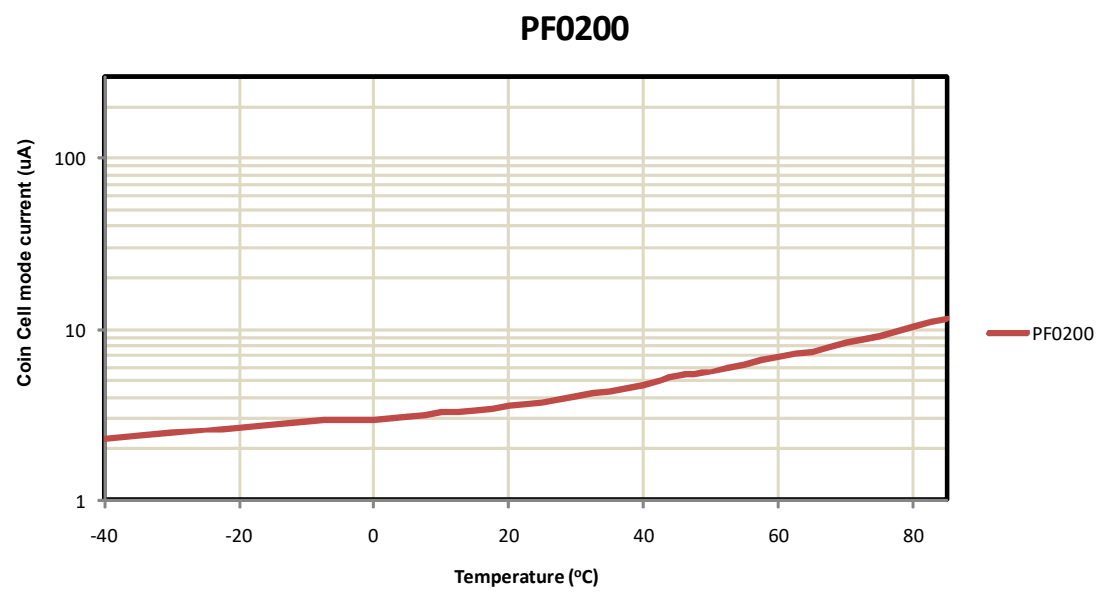

Figure 4. Coin cell mode current versus temperature
16. Refer to Figure 4 for Coin Cell mode characteristics over temperature.